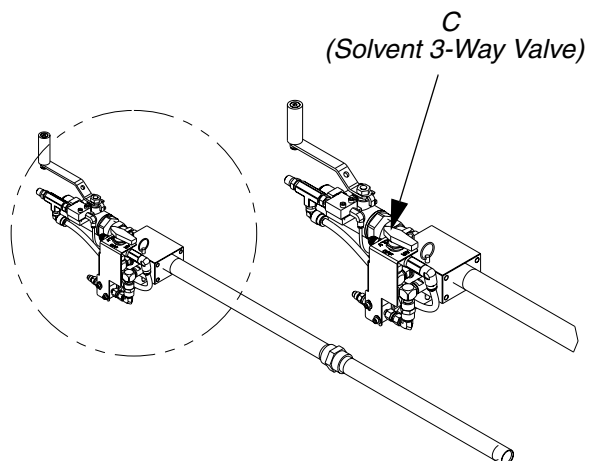

FIG. 16: Valve Positions
4. After solvent flushing, switch to air flush to purge lines of solvent. See FIG. 16.